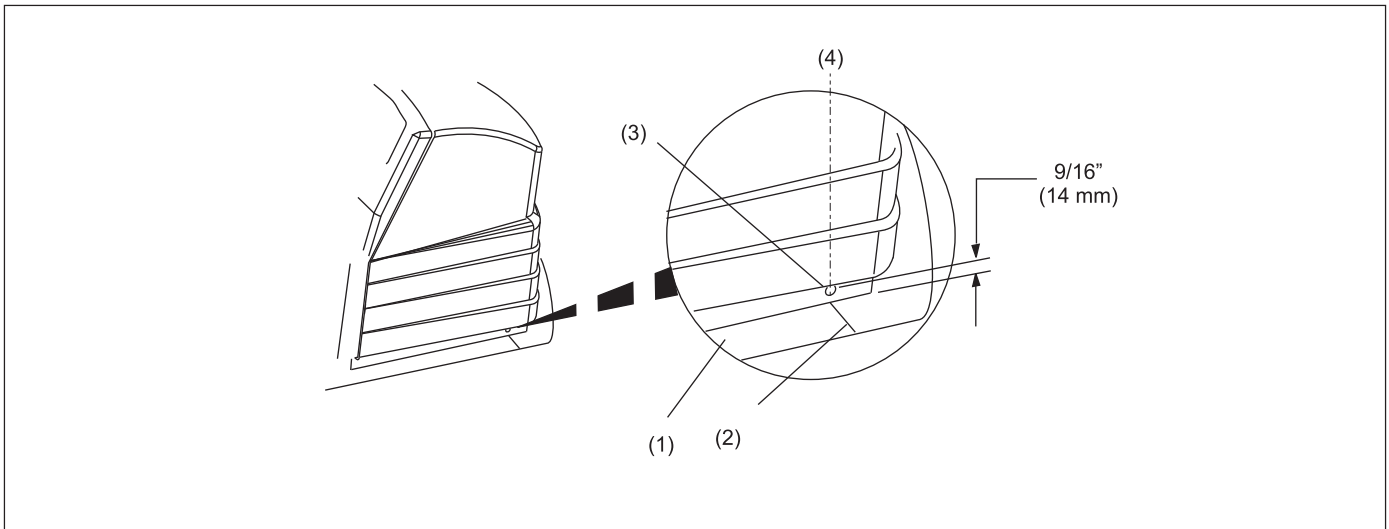

*Figure 12. Flange Installation*
- Remove the ball lift hood from the ball lift and align the flange with the alignment marks made on the approach. Using the flange as a template, drill two  $5/32$ " pilot holes centered in the slotted openings at the rear of the flange. Refer to *Figure 12*.
- Temporarily secure the flange to the approach with two #10-1 $\frac{1}{2}$  Robertson flat head screws with flat washers. Refer to *Figure 12*.
(4) CENTER LINE OF SCRIBE MARK
9. If necessary, remove the hood and loosen the two screws and reposition the flange using the clearance in the slotted holes. When there is good registration, drill two additional pilot holes and secure the flange. Refer to *Figure 12*.